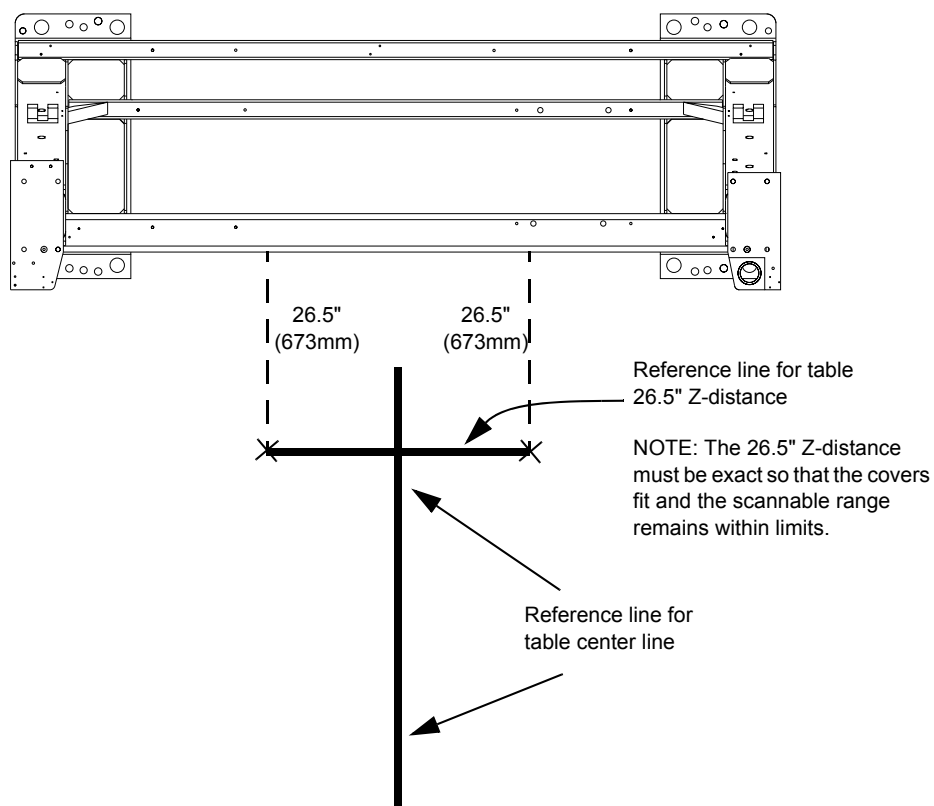

Figure 1-21 Table Center Line
- 11.) Recheck the table-to-gantry reference line for 26.5 in. (± 0.25 in.) Z-distance. Refer to Figure 1-21.